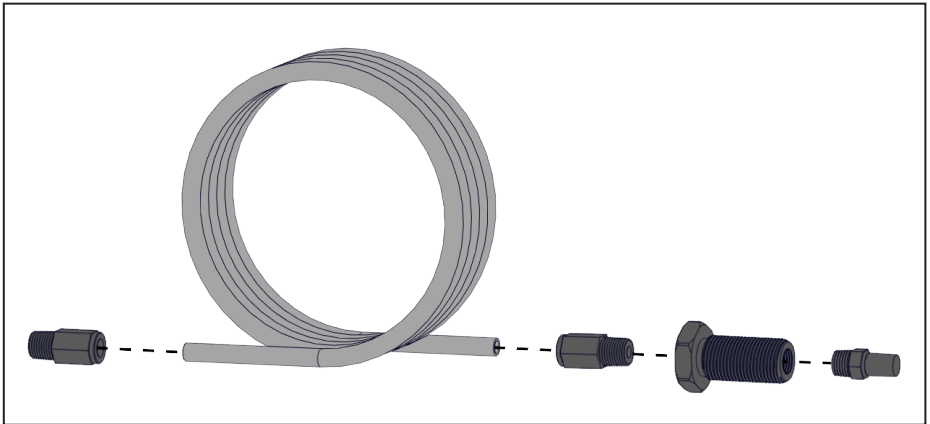

Figure 37 — Tubing Installation Remote Blowdown Muffer assembly
- Install the tube into the push-to-connect bulkhead fitting (Figure 37)